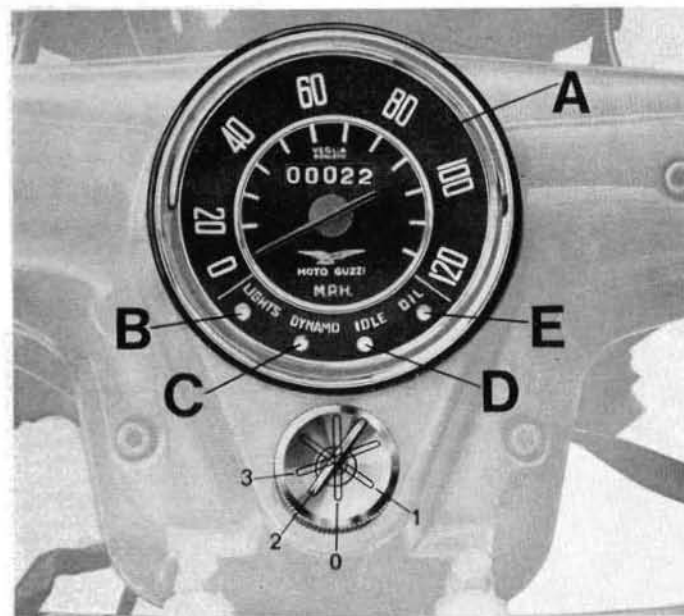

Fig. 6
- 1 - Speedometer (See fig. 6) including
- 2 - Ignition key switch (Automotive type). This controls the entire electric equipment and engine starting. This key has the function of an antitheft device (See fig. 6).
Ensure there is sufficient oil in the tank and the crankcase oil is at correct level. Insert the ignition key and switch it on to position 2 (See fig. 6), ensuring that the oil pressure gauge, ammeter, and orange neutral indicator light up. (Don't forget that when this latter does not light up it means a gear is engaged).
On a cold engine, the air lever is set in the almost fully closed position and the gas opened about 3/4 turn. Turn on the ignition key fully to the right (See 3, fig. 6) to start the engine. When the engine starts release the key which will return to position 2 and open the air lever gradually.
As soon as the machine stops, close the throttle, shift to neutral, turn the ignition key to the « 0 » position and remove (fig. 6).